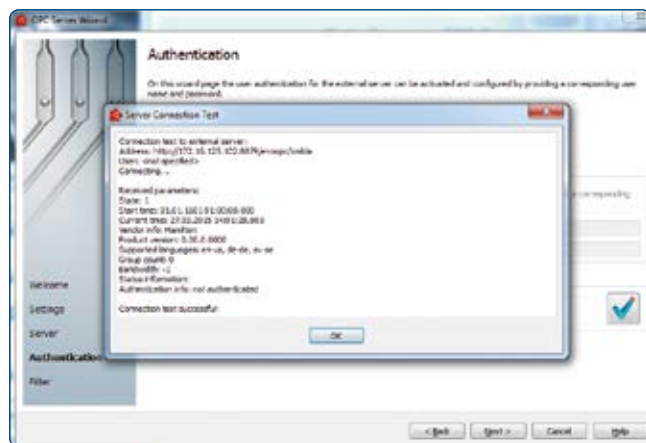

Figure 76: Successful validation of the server connection.
10. If the configuration was successful the following text (Figure 76) is written on the terminal.